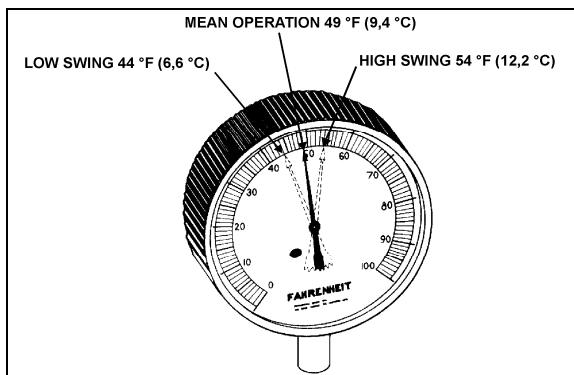

FIGURE 34: HIGH & LOW SWING TEMPERATURE AT REMOTE BULB22047
6. Check approximately 5 readings of pressure at 2-minute intervals and convert to temperature using the temperatures & pressures table (page 33). Likewise check the temperature reading at the remote bulb at the same 2-minute intervals and record the low and high swing readings of the needle (refer to Fig. 34).
Example of readings taken at fig. 34: